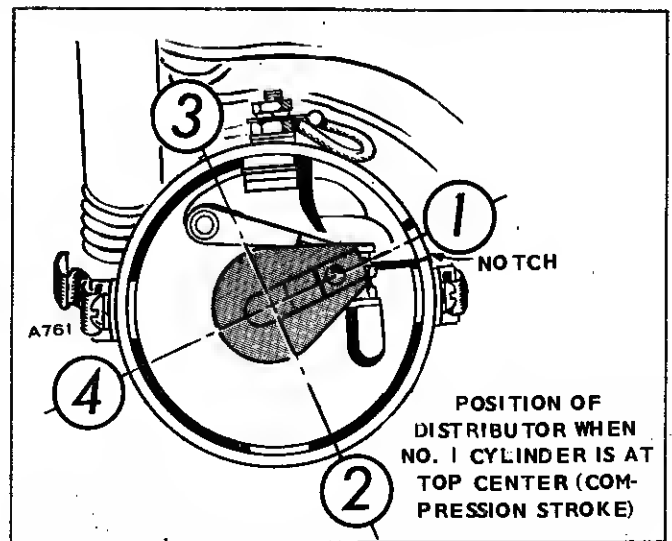

FIGURE 45. DISTRIBUTOR POSITION AT TOP CENTER
3. While holding the distributor in the position shown in Fig. 45 and the rotor 1/8 turn counterclockwise from the position shown, push the distributor into its mount-